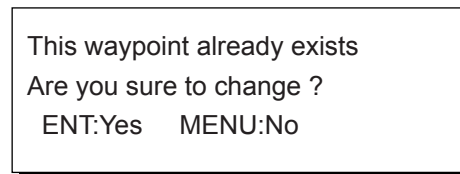

Figure 5-7
- ① Press **WPT RTE** and **5** to display the route list.
- ② Press **▲** or **▼** to select route number entered.
- ③ Press **▶**.
- ④ Enter waypoint number, in three digits.
- ⑤ Press **▼**. If the waypoint number already exists the message shown in Figure 5-7 appears.